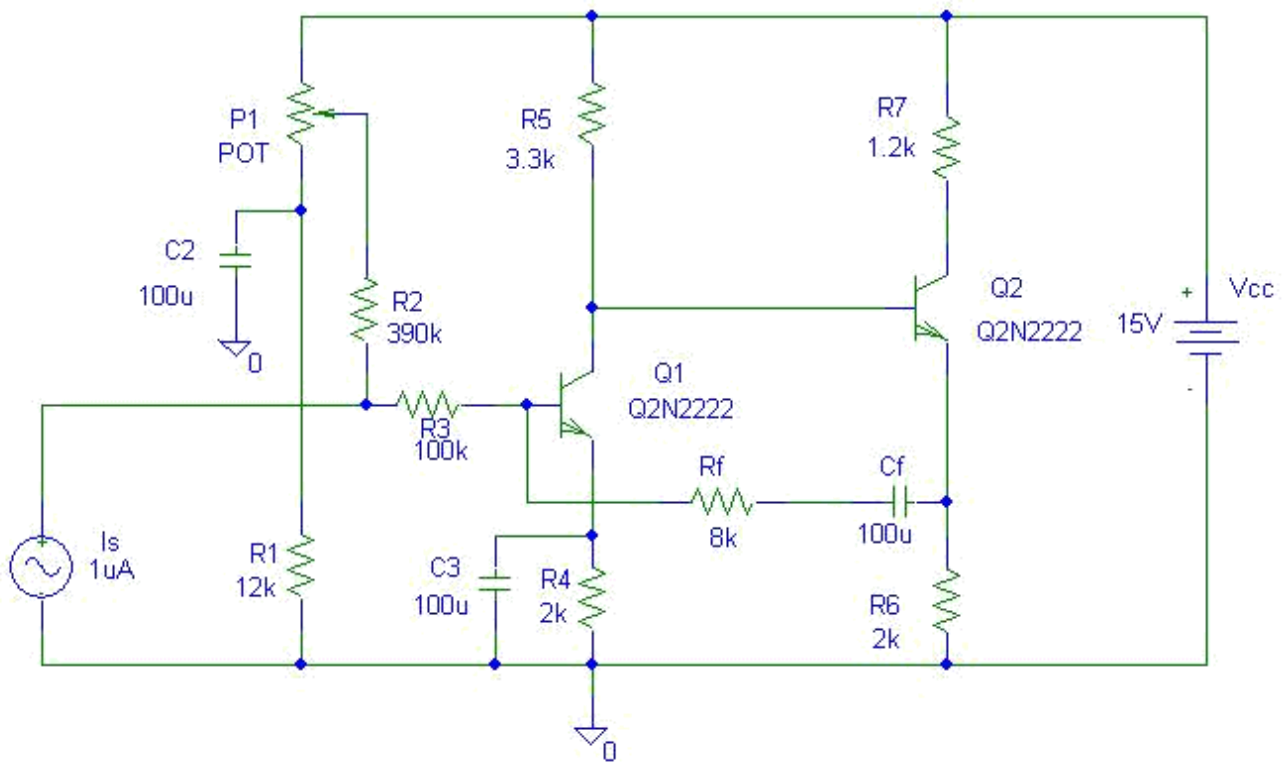

Fig 3. The transimpedance amplifier circuit with a shunt-shunt negative feedback
3.3. Draw the circuit corresponding to the transimpedance amplifier (Figure 3) by using the *Schematics* utility.